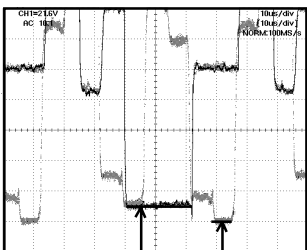

Fig. 2-4
7. Press the VOL. UP/DOWN button on the remote control until the red color level is adjusted to $115 \pm 10\%$ of the white level. **(Refer to Fig. 2-4)**